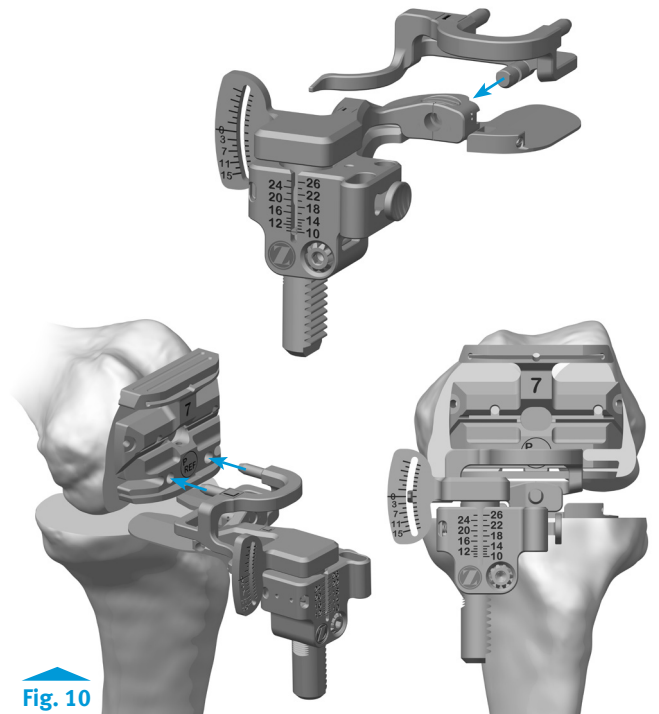

Fig. 10
- Prior to resection of the posterior condyles, attach the *Zimmer FuZion* 4-in-1 Cut Guide Adapter to the *Zimmer FuZion* Tensor and insert into the posterior holes of the *Persona* Posterior Referencing 4-in-1 Cut Guide (Fig. 10).